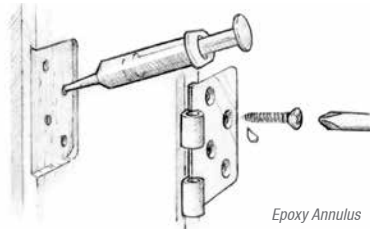

Figure 15 Wet out a standard pilot hole and install the fastener.
1. Wet out a standard-size pilot hole. Work the mixture well into the hole with a pipe cleaner or syringe (Figure 15). Thicken a second coat of epoxy as necessary for stripped or oversized holes.